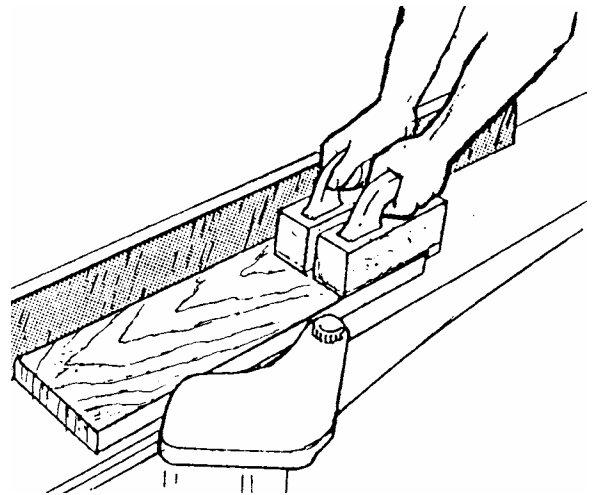

Figure 35
- ❑ When surfacing short stock over 4 inches wide, use two (2) push blocks to guide material over cutterhead (Figure 35).